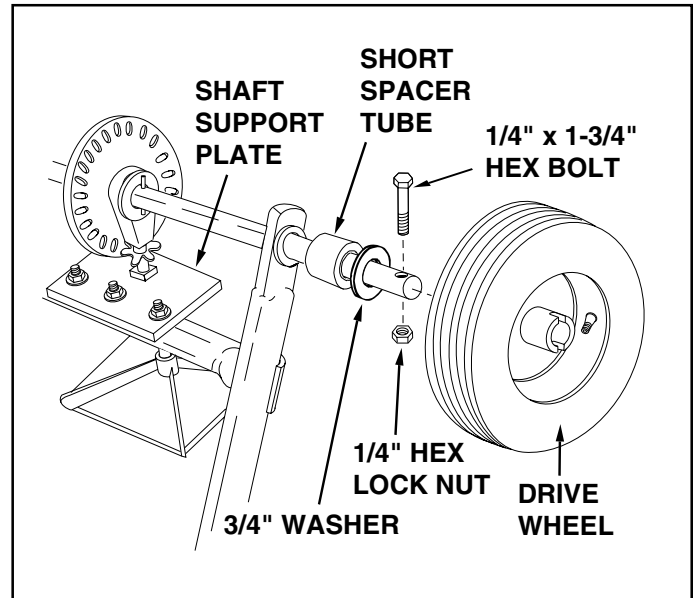

FIGURE 2
5. Place the short spacer tube and a 3/4" washer onto the end of the axle that has the large drilled hole (left hand side). See Figure 2.
6. Place the drive wheel onto the axle. The notched hub and the air valve should face to the outside. See Figure 2.
7. Fasten the wheel to the axle using a 1/4" x 1-3/4" hex bolt and a 1/4" hex lock nut. See Figure 2.